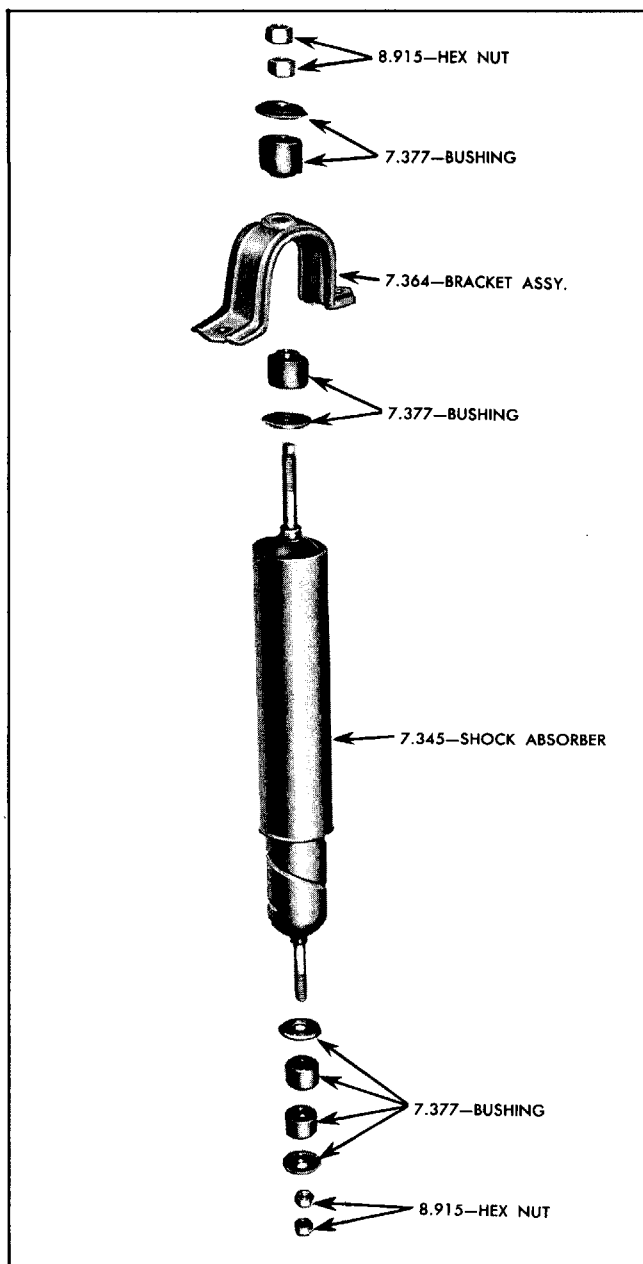

Fig. 3-13 Front Shock Absorber and Mounting Parts
8. Install new shock absorber and bracket by reversing the procedure in Steps 1 through 6. Make sure all grommets and retainers are correctly installed (see Fig. 3-13 for details of mounting).